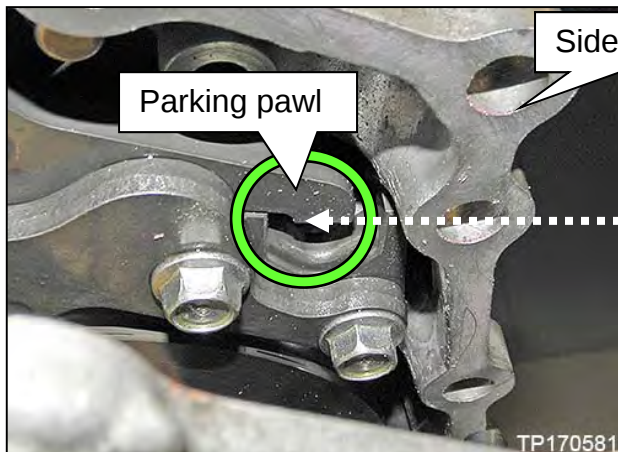

Figure 96
- b. Use a magnet, or similar tool, to align the parking rod in the CVT case ( in Figure 97) with the opening in the parking pawl ( in Figure 96) in the side cover.